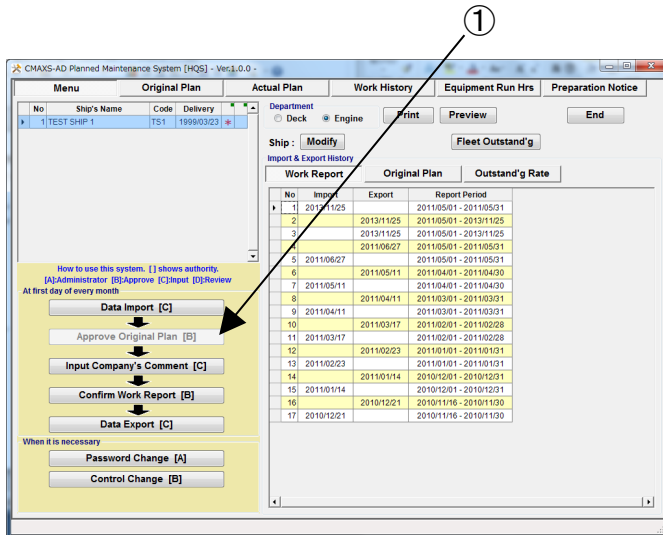

Fig.6-1 Menu Screen
- (1) On the "Menu Screen"(Fig.6-1), select [Approve Original Plan].